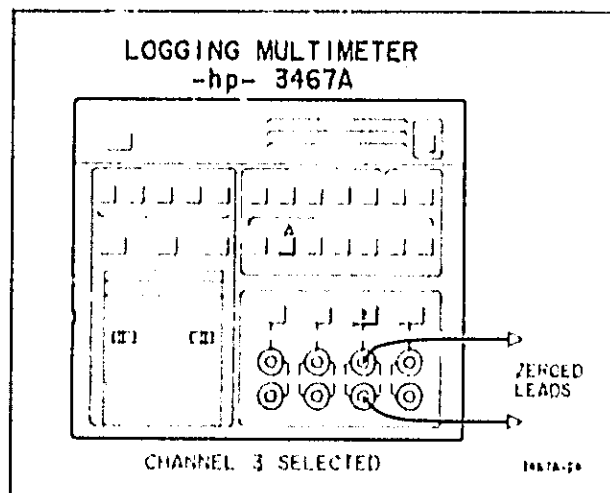

Figure 3-19. Using Δ Math To Eliminate Lead Error.
- c. Make the measurement on another channel in the Δ math mode. Lead contributions are automatically eliminated from the measurement results. Figure 3-19 portrays this last step.